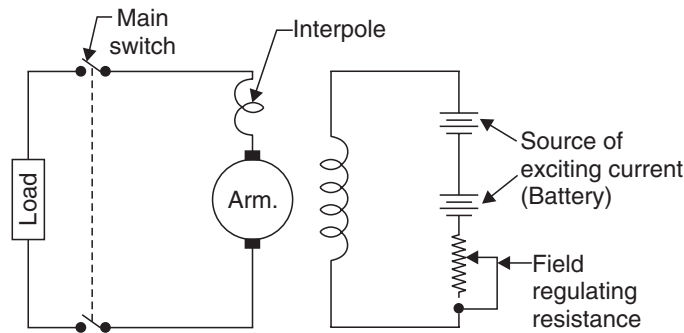

Fig. 29. Connection for a separately excited generator.
- Fig. 29 shows the connections of a separately excited generator, a battery being indicated as the source of exciting current, although any other constant voltage source could be used.